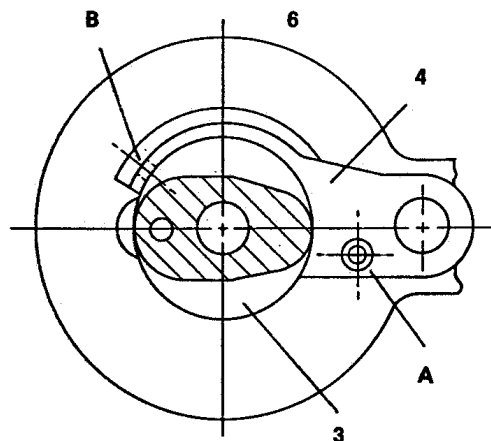

Figure 2.
2. See Figure 2. Position throttle cover (4) around handle (3). Carefully center closed end of cover over throttle valve—clearance must be allowed for throttle valve operation. Push pencil into hole A and, with throttle cover carefully centered, mark center of hole on cylinder (6).